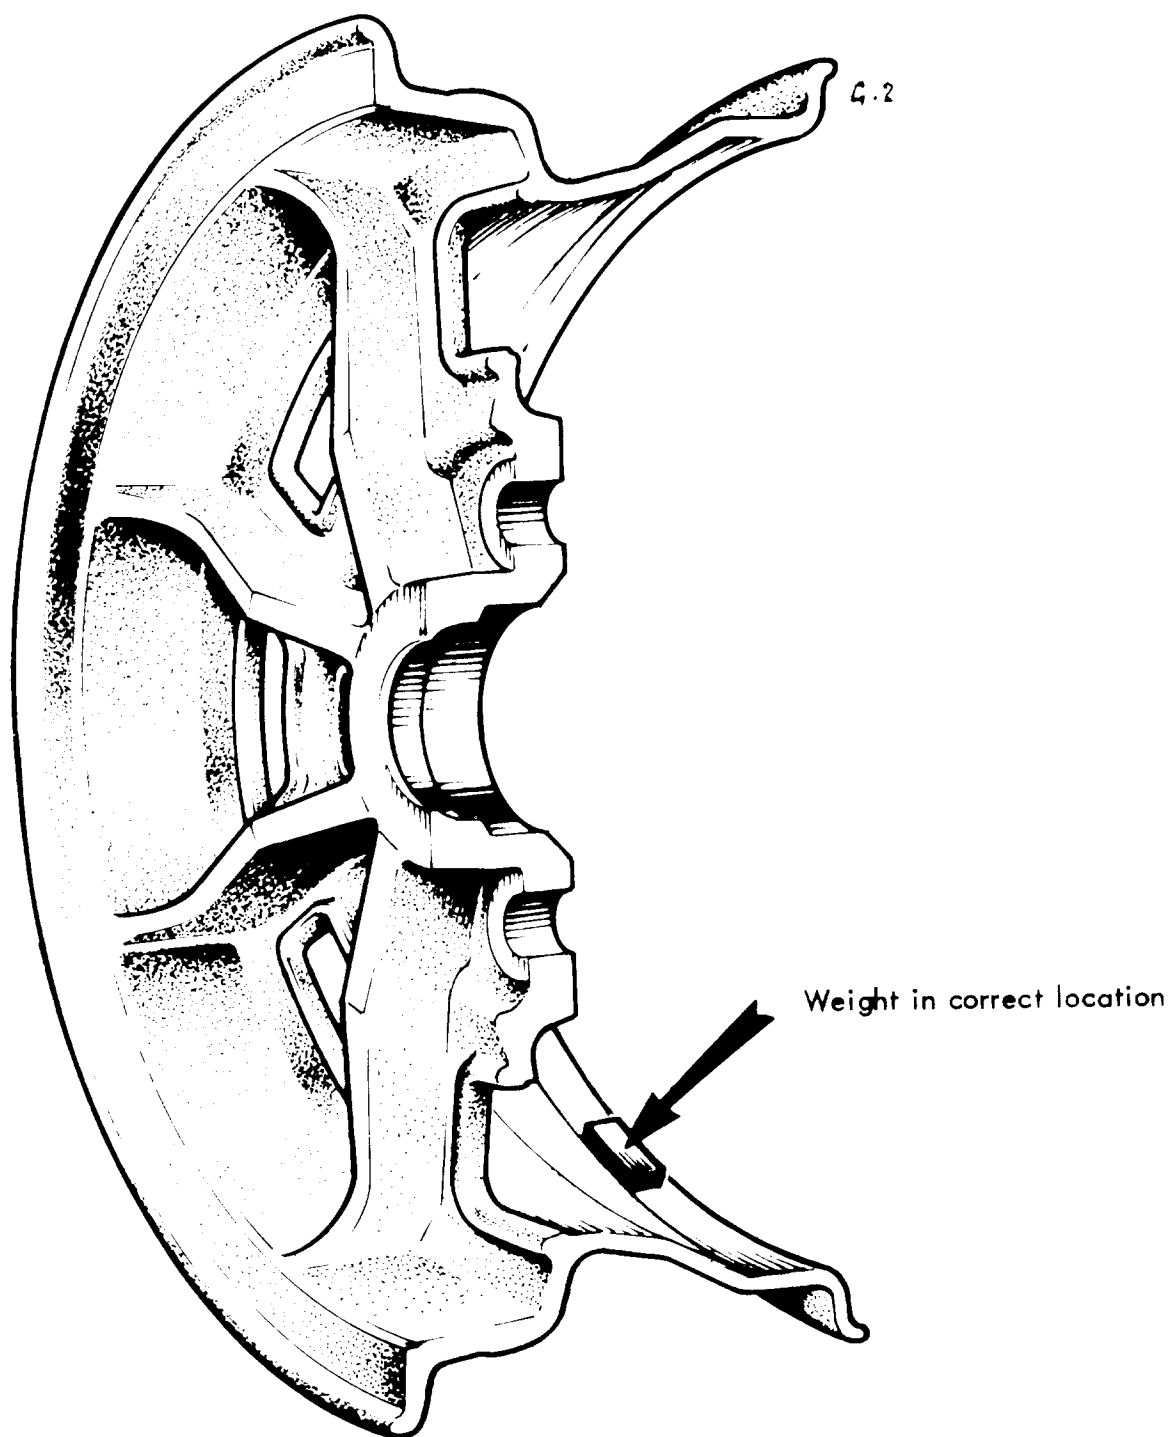

Fig. 1. ALLOY WHEEL SHOWING CORRECT LOCATION
3. It is IMPORTANT that any balance weights are hard up against the corner radius of the wide part of the inside of the wheel (see Fig. 1.)